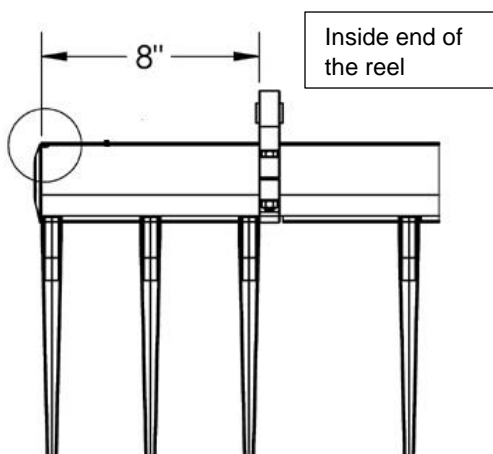

Figure 197
4. On the inner end of the reel the outside clamp should be positioned to 8" from the end of the reel tube. Figure 197.